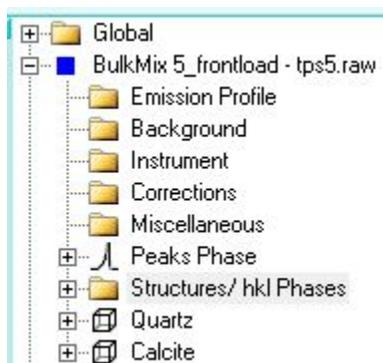

Figure 19. Structures present in parameter window under range tree
4. Now when the scan is expanded in the parameter window a mineral structure is included at the bottom (Figure 19).